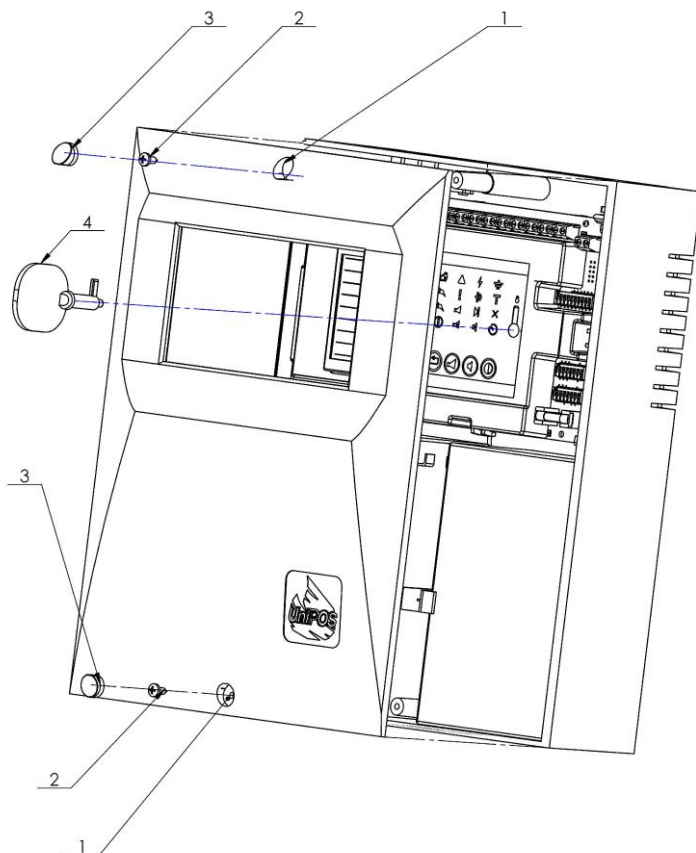

Fig.3
- remove the access level key (fig.3, pos.4);
- remove the plastic plugs (fig.3, pos.3);
- remove the screws of the dedicated openings on the front cover (fig.3, pos.1 and pos.2);